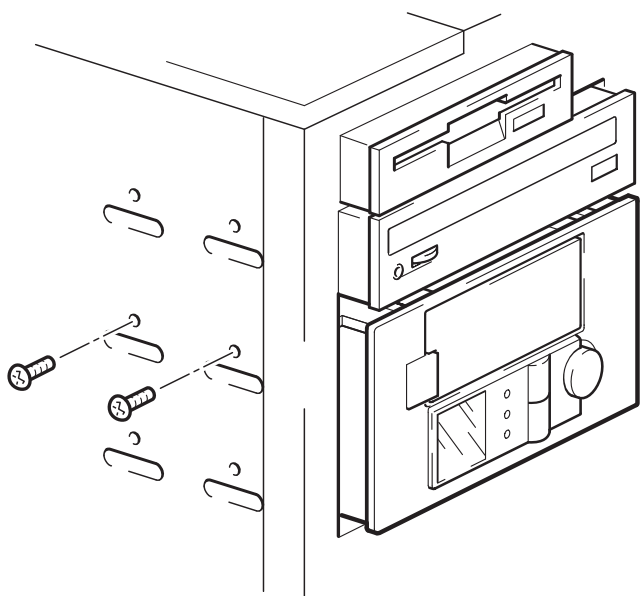

Figure 10b: securing autoloader, no mounting hardware
- 1 Secure the autoloader into place. Check that the holes in the chassis are aligned with the holes in the sides of the autoloader and use the screws provided with the rail kit to secure the drive, as shown in figure 10b.